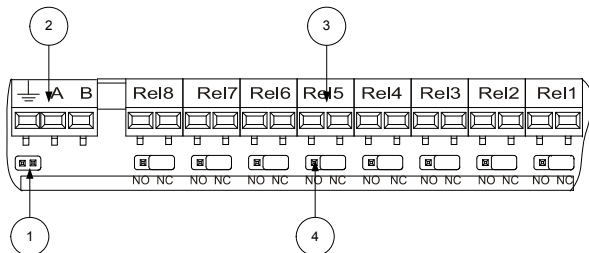

Fig.2
1.2. Configure the jumpers of the relay contacts by means of pincers (normal open or normal close) depending on the specific project, pos. 4 (fig. 2).
- if the connected fire control panel is the first or the last one in the created local network, switch the jumper in the module, pos. 1 (fig. 2). The module is delivered with switched terminating jumper;
3.2. The wires of the local network are connected to terminals "A" and "B" of the extension module, pos. 2 (fig. 2).
3.3. Connect the circuits of the monitored devices to the fire condition relays, pos. 3 (fig. 2), according to the specific project.